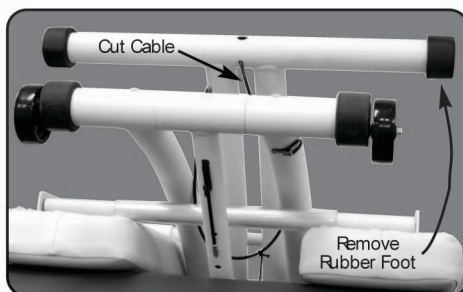

Fig. 2
2. Remove one of the front rubber feet. (Fig 2)
3. With your cable cutter, cut the cable about one inch from the opening in the front foot tube. Fig 2